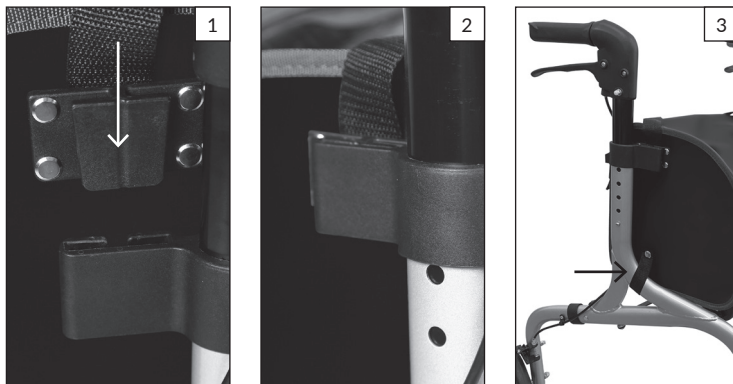

Figure 8:
2. Refer to section **Unfolding Rollator** and Figure 8. Slide one of the 'T-brackets' on the side of the bag into the slot at the top of the main frame.
1. Refer to figure 8. Release the bag security strap, then remove the bag by lifting it up with the handle. The 'T-brackets' should slide free from the bag slots on both sides.